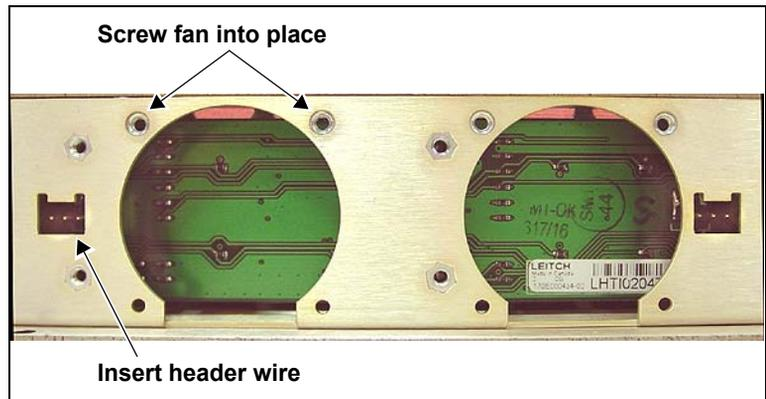

Figure C-56. Replacing a Fan within the Assembly
6. Fasten a new fan into place on the assembly with the supplied screws. (See Figure C-56.)